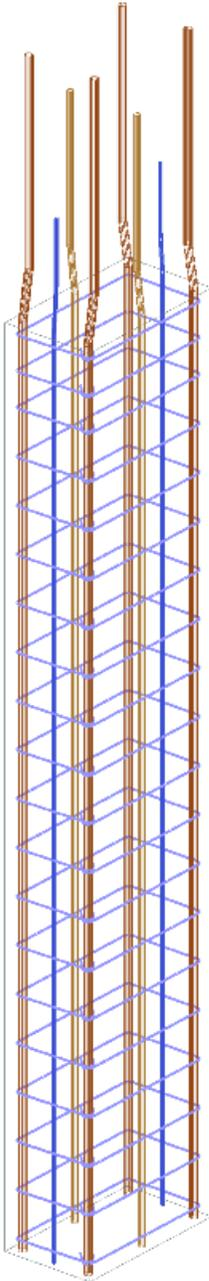

Figure 27.37. Column reinforcement in colour according to diameter
- ⇒ To visualize reinforcement in colour according to diameter (see Fig. 27.37), on the **Reinforcement** ribbon tab, on the **Settings** panel, click the **Colour by Ø** button  .